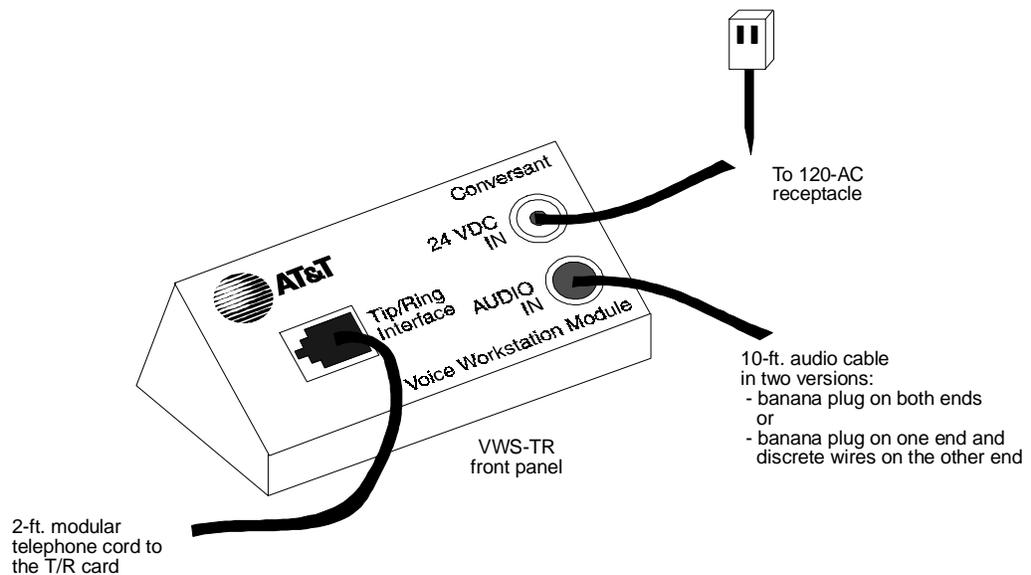

Figure 10-16. Voice Workstation System, Tip/Ring Interface Module
- Audio Jack Kit (see Figure 10-16); this includes:
3. Plug the other end of the audio cable into the AUDIO IN connector of the VWS-TR interface module (Figure 10-16).